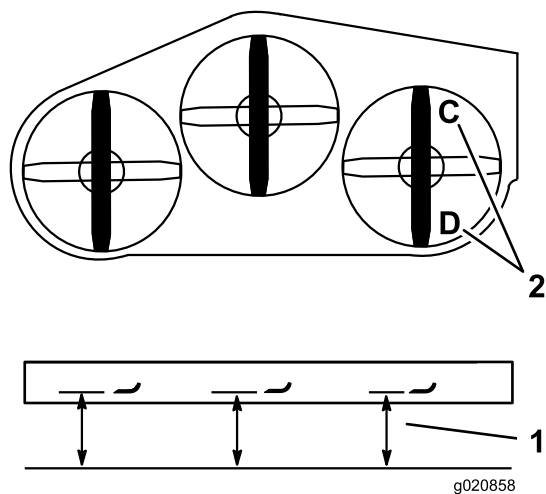

Figure 83
1. Position the right blade front-to-rear (Figure 83).
2. Measure the right blade at the **C** location, from a level surface to the cutting edge of the blade tip, and record this measurement (Figure 83).
3. Measure the right blade at the **D** location, from a level surface to the cutting edge of the blade tip, and record this measurement (Figure 83).
Note: The mower blade should be 6 to 10 mm (1/4 to 3/8 inch) lower at position **C** than at position **D** (Figure 83). If it is not correct, proceed to the following steps.
2. Position the right blade front-to-rear (Figure 83).